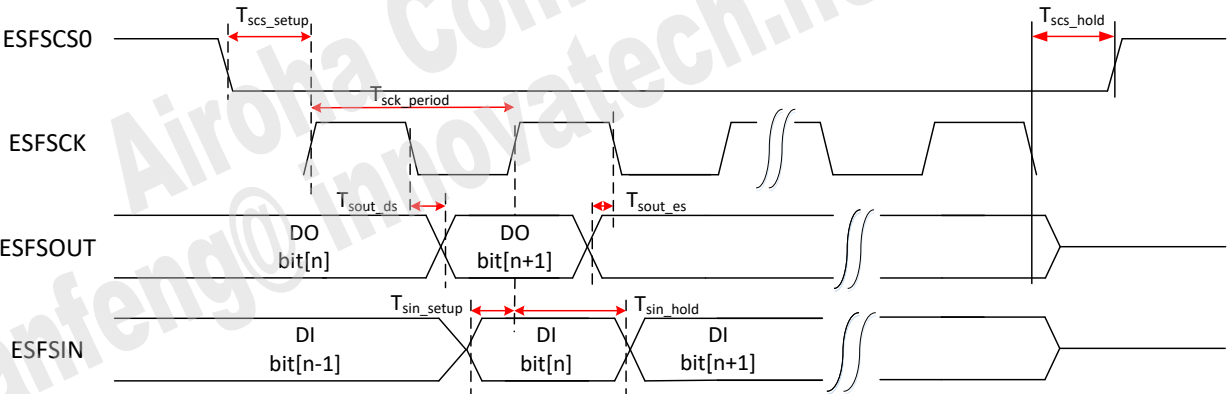

Figure 7.4-8. SF controller interface timing
- The operating characteristics of the SF controller at typical temperature (25°C) are shown in Figure 7.4-8.